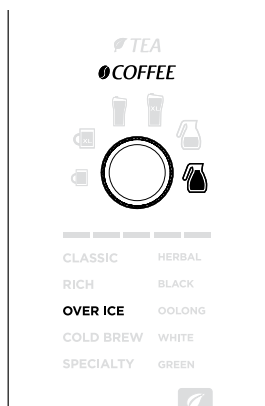
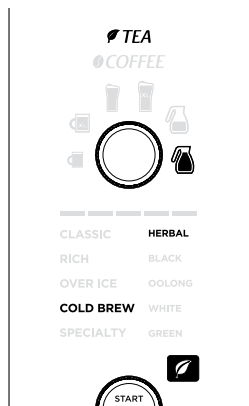

Fig. 17a
Fig. 17b
- 4 Turn the START/SELECT dial to choose either Over Ice Brew or Cold Brew (Fig. 17a, Fig. 17b). If brewing tea, press the Tea button  to toggle to the tea menu, and use the dial to choose your tea type. To change your brew style while in the tea menu, press the Tea button .